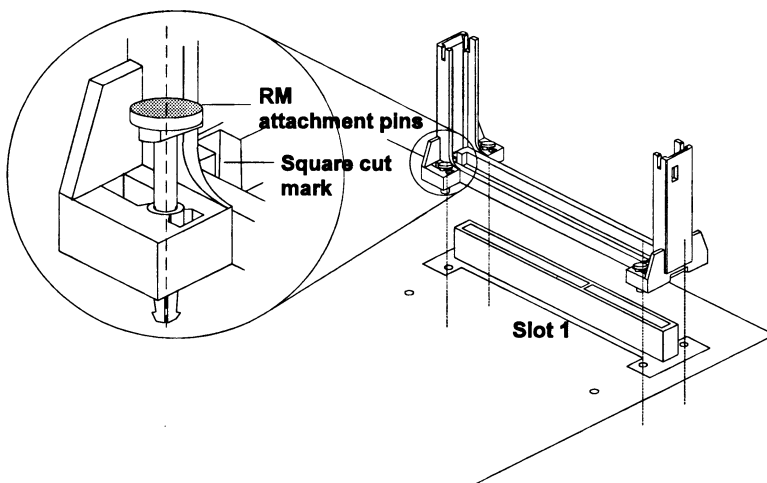

Figure 2-5: Mounting the RM onto Slot 1.
2. Mount the RM onto Slot 1. Make sure that the square cut mark of the RM has the same orientation as Pin 1 of Slot 1. See Figure 2-5.
3. Insert four RM attachment pins through the RM to secure it to the motherboard (see Figure 2-5.)